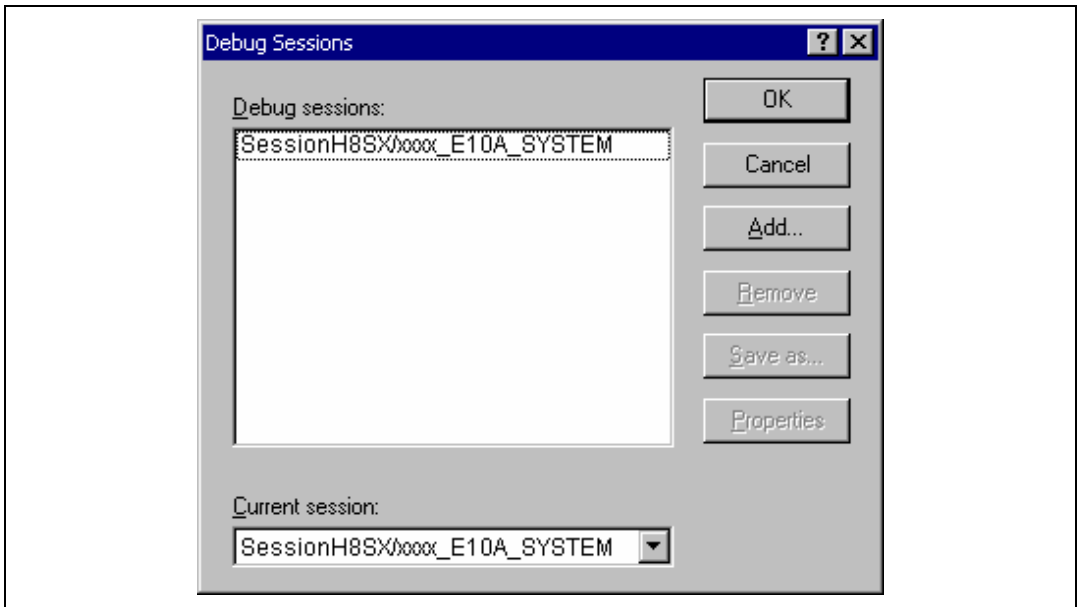

Figure 4.29 [Debug Sessions] Dialog Box
1. Select [Options -> Debug Sessions...]. This will open the [Debug Sessions] dialog box (figure 4.29).
1. Select [Options -> Debug Sessions...] to display the [Debug Sessions] dialog box (figure 4.29).